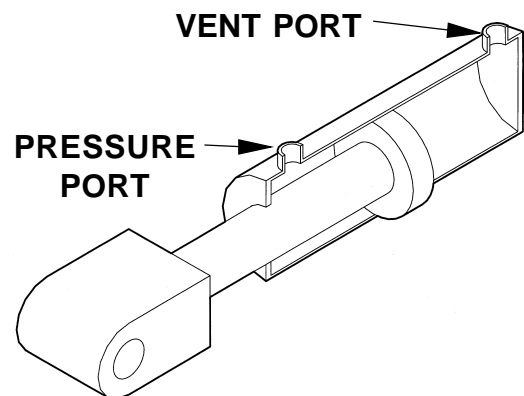

FIG. 3
3. Check the Hydraulic Cylinder. With the Platform on the ground, remove the Breather Plug or Vent Line from the Vent Port of the Cylinder. Raise the Platform to be level with the bed. If hydraulic fluid streams from the Vent Port, the Piston Seals are worn. Replace the Seals. **(See FIG. 3)**.